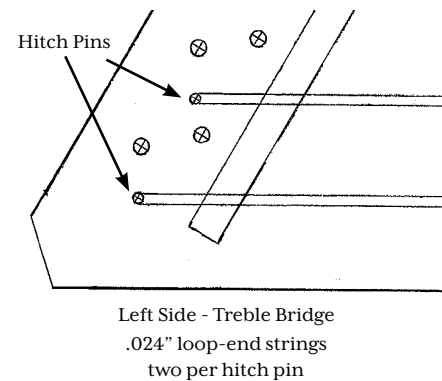

FIG. 19
- \_\_\_28. Find four of the loop-end wound strings (size .024"). These will form the first two "courses" (pairs) of strings near the bottom (wide) front rail of the dulcimer. (fig. 19) Insert a HITCH PIN through two of those string loops and use the Square Drive Bit provided to install the HITCH PIN into the wood, leaving a little space under the head of the screw so the wires can be pulled into alignment. (If you forgot to leave the bottom two hitch pins out - don't worry. Just remove those pins, add the strings, and re-install.)